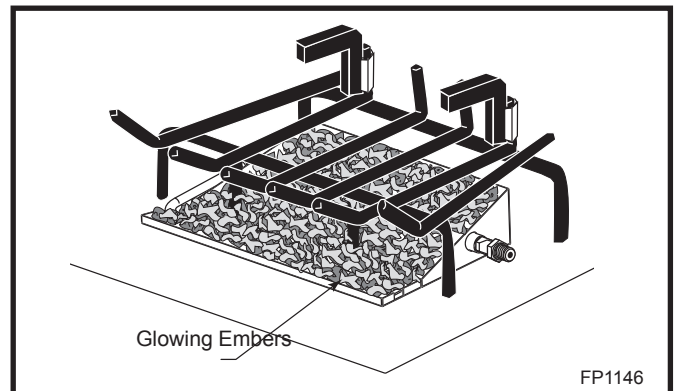

Fig. 9 Ember placement.
2. Open one bag of glowing embers and place evenly across burner covering lava rock. (Fig. 9)